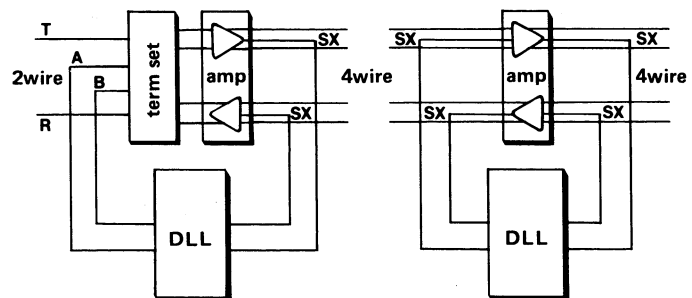

figure 2. Typical 2w-to-4w and 4w-to-4w interfaces
2.03 Though basically a 2wire-to-2wire device, the 7001(A) can be conditioned via switch option for use in 4wire-to-4wire, 4wire-to-2wire, or 2wire-to-4wire applications. In such applications, however, the 7001(A) must interface the 4wire circuit(s) through a 4wire device such as a line amplifier or a voice-frequency repeater. For a 4wire circuit on the switching-equipment side of the 7001(A), this interface is accomplished by connecting the switch-side T and R leads of the 7001(A) to the switch-side A and B leads or simplex (SX) leads of the 4wire device. Similarly, for a 4wire circuit on the station side of the 7001(A), this interface is accomplished by connecting the station-side T and R leads of the 7001(A) to the station-side A and B leads or SX leads of the 4wire device. Figure 2 shows 2wire-to-4wire and 4wire-to-4wire interfaces involving the 7001(A).
3.08 Switch S8 conditions the 7001(A) to interface 2wire or 4wire transmission equipment (e.g., a line amp, repeater, or term set) on either or both sides. If the module interfaces 2wire transmission equipment on both the switch and station sides, set S8 to the 2W position. If the module interfaces a 4wire transmission device on either side or on both sides, set S8 to the 4W position; also ensure that the 7001(A)'s T and R leads on the side(s) where the 4wire device(s) is located are connected to the A and B leads or SX leads on the corresponding side(s) of the 4wire device. (See paragraph 2.03 and figure 2 for details.)